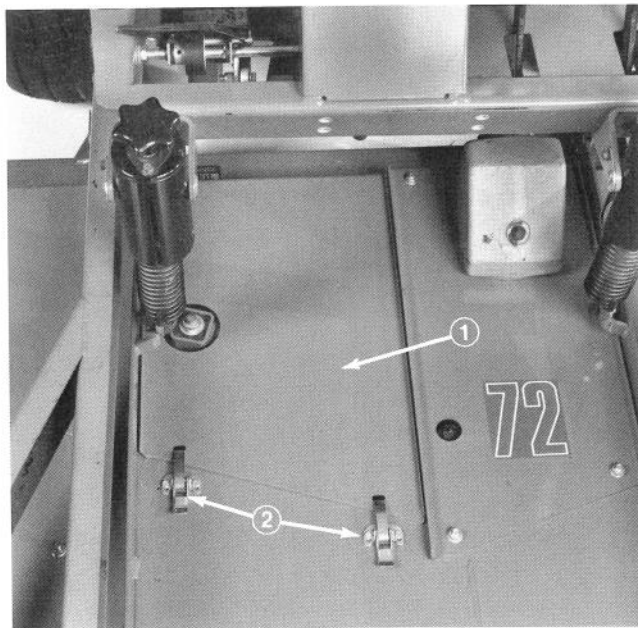

Figure 31
2. Release and unhook latches securing center cover to top of cutting unit (Fig. 31). Remove cover from cutting unit.
2. Release and unhook latches securing center cover to top of cutting unit (Fig. 31).